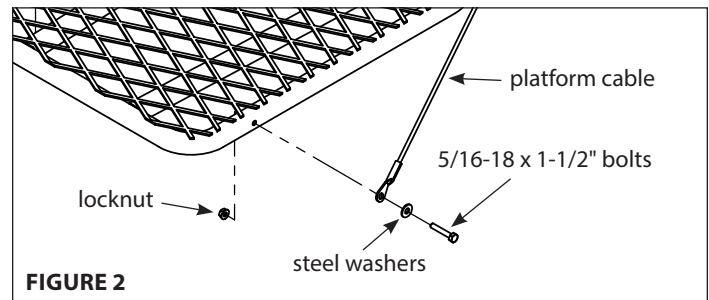

FIGURE 2
3. Bolt cables onto platform using the (2) provided 5/16-18 x 1-1/2" bolts, locknuts and steel washers. **SEE FIGURE 2. You must now tighten all nut & bolt assemblies. Be sure not to over tighten or crush tubing when tightening!**